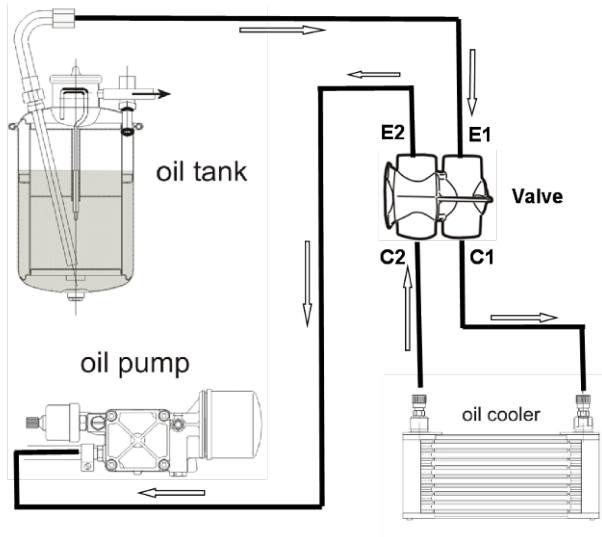

Figure 1 Installation for HORIZONTAL cooler (copyright Rotax all rights reserved).
3.4 Connections. See Figures 1 & 2 and connect the valve as follows: -